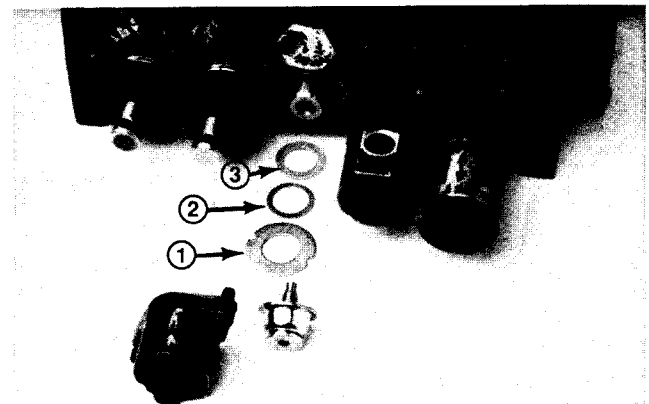

Figure 26
1. Remove the bonnet (Fig. 26).